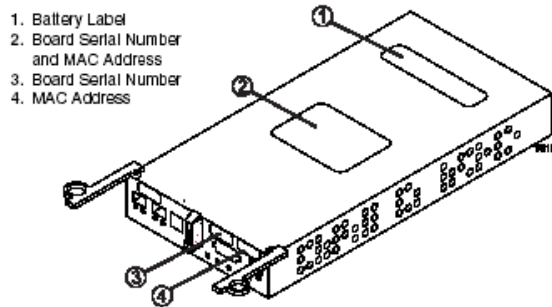

FIGURE 7-13 Label Locations for the Controller
14. Update the following information on the controller labels. Figure 7-13 on page 7-28 shows the location of the labels.